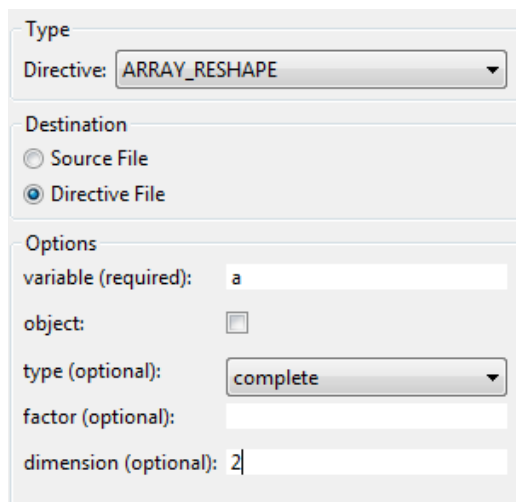

Figure 3.15: Directive configurations for reshaping array `a`
- (r) Ensure the source code `matrix_mult.cpp` is visible in the editor, and open the **Directives** tab. Right-click on variable `a` and select *Insert Directive*. Ensure the directive is configured as in Figure 3.15, with `ARRAY_RESHAPE` selected as directive type and dimension specified as 2.